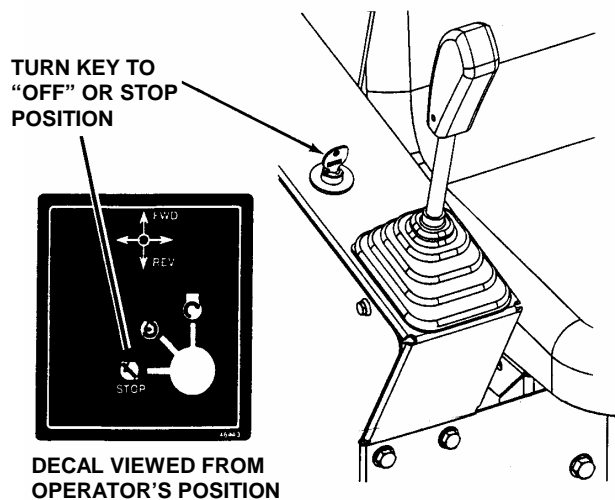

FIGURE 2.8
1. Stop engine by turning key to the "OFF" position. See Figure 2.8.
1. Stop motion of riding mower by moving joystick to neutral (N) position. See to Figure 2.8.